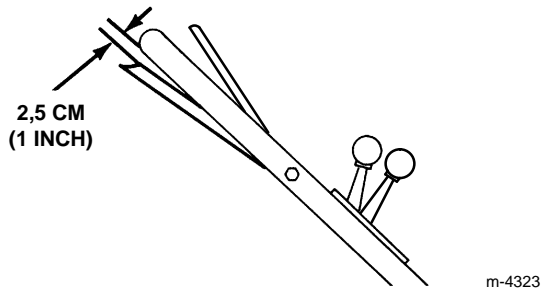

Figure 23
3. **CHECK ADJUSTMENT**—Slowly pull mower backward while control bar is gradually moved toward handle. Adjustment is correct when rear wheels stop turning and control bar is about 1 inch from handle (Fig. 23).